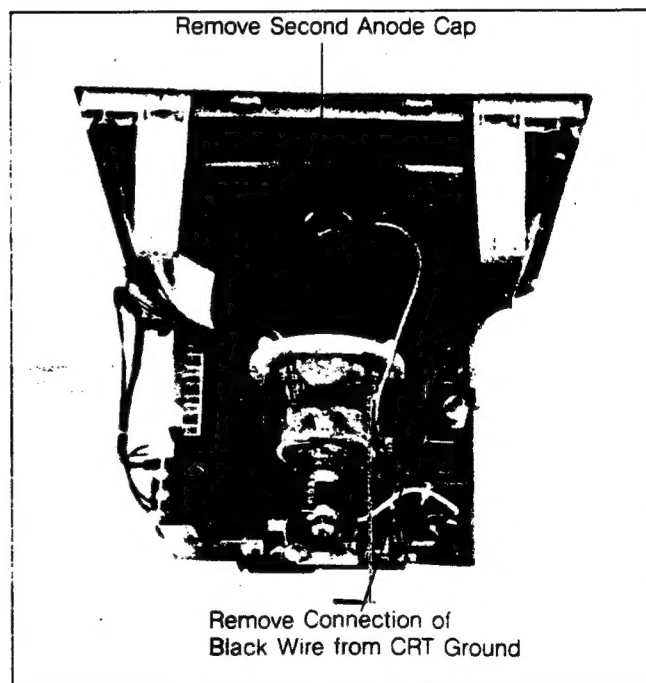

Fig. 5
5. Remove solder connection of the black wire connecting CRT grounding and neck p.c. board, then remove the neck p.c. board from the picture tube. (See Fig. 5)